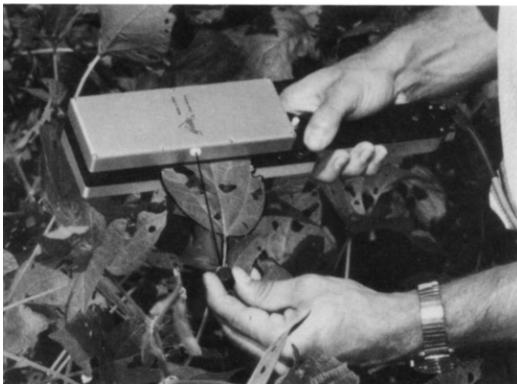

Figure 3. Soybean Measurement.
- Compound leaves can be measured by either scanning each leaflet, as with the soybean trifoliate in Figure 3, or by enclosing the entire intact leaf in a transparent sheath.